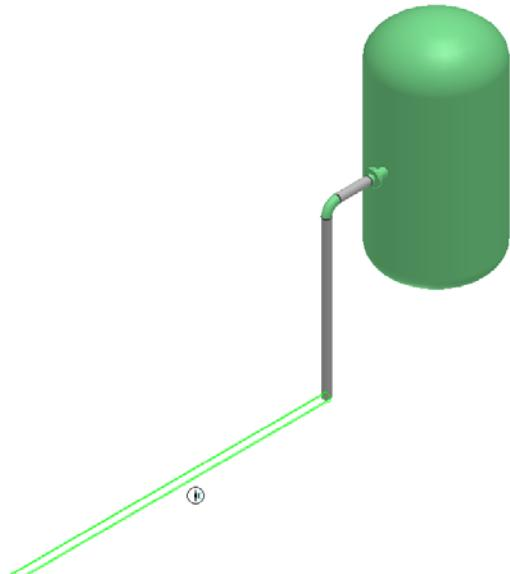

Figure 33: Placed Pipe
10. Key in **15 ft** in the **Length** drop-down list on the **Route Pipe** ribbon. Move the cursor towards the left until SmartSketch displays the **E** glyph as shown in Figure 33 and click in the graphic view to place the pipe.